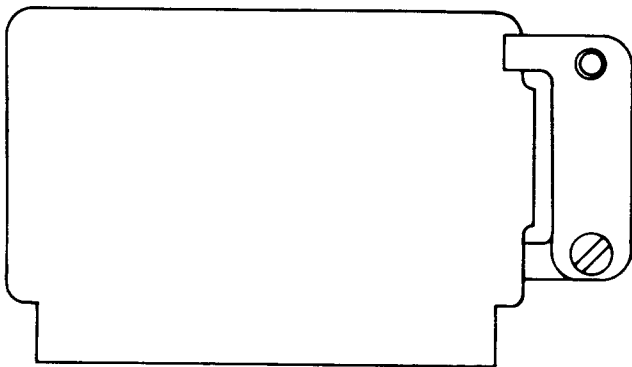

Fig. 3—KS-19342-Type Connector
2.03 **KS-19342, L1 Through L10:** The KS-19342, L1 through L10 (Fig. 3) are miniature, polarized, multicontact, female connectors. For more information, see Table B.